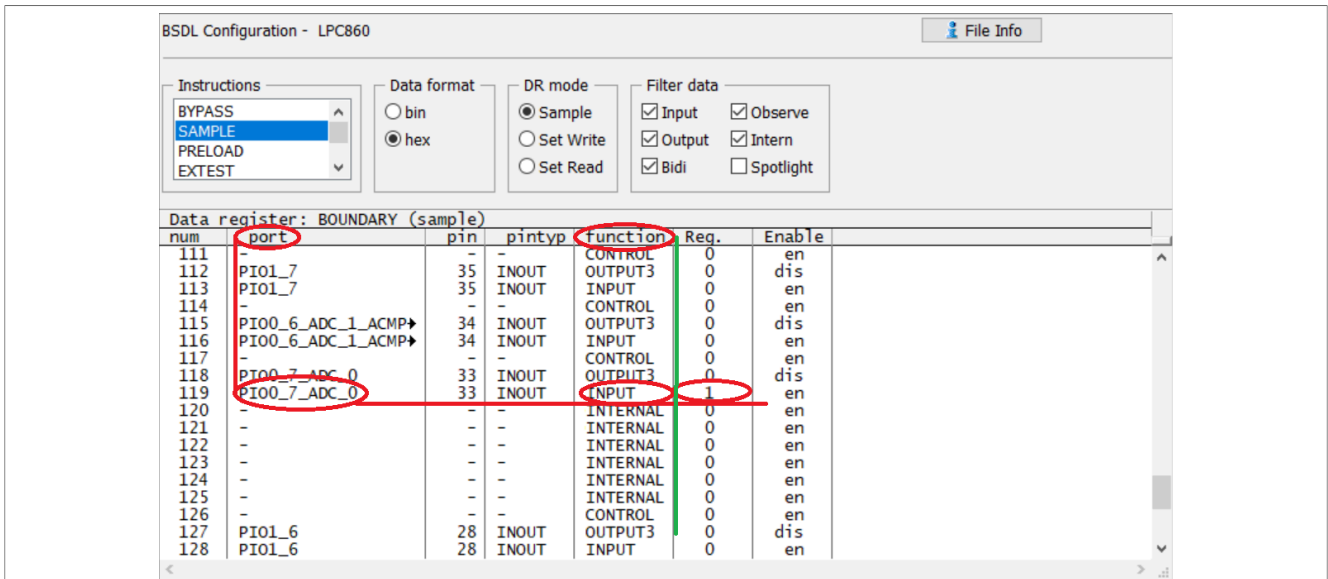

Figure 17. Sample high level on P0_7
- a. Apply high level to this pin. Use the BSDL.RUN command to run the SAMPLE test. Search the line where port is PIO0_7 and function is INPUT. Read the register value in Reg. column and it is 1, as shown in Figure 17.